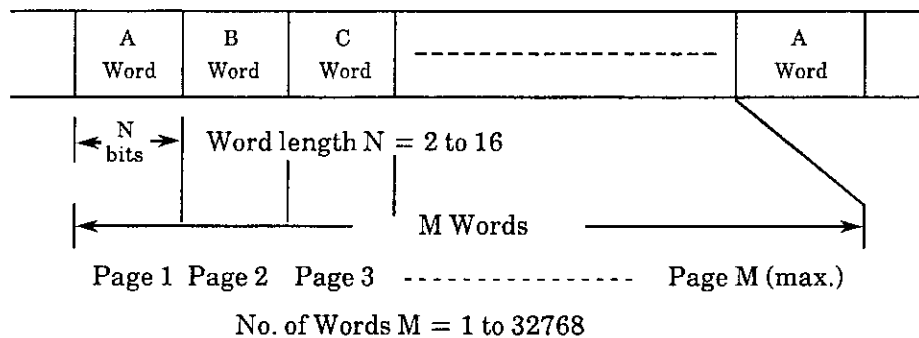

Fig. 5-1 Word-Mode Programmable Pattern
When the number of bits making up one word is represented by word length N , and the number of words making up one period is represented by M , the pattern shown in Fig. 5-1 is obtained.
When the page is specified as 1, the contents of the set A word in Fig. 5-1 are displayed at BIT (7) and the A word can be modified with the BIT keys (7).